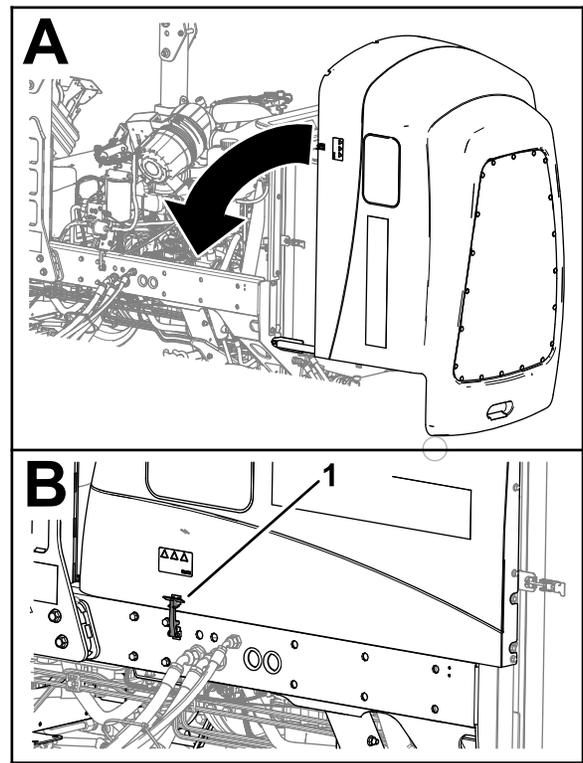

Figure 59
1. Carefully rotate the hood closed (Figure 59).